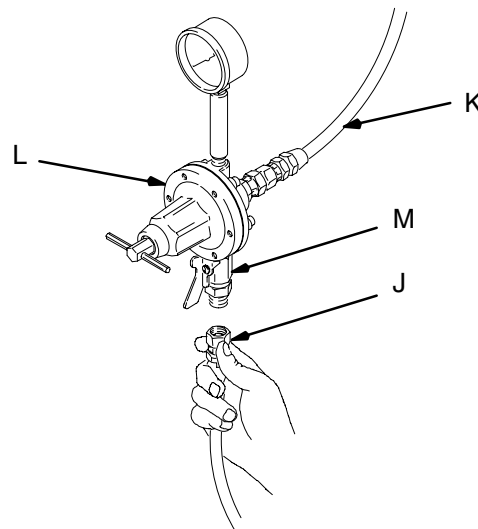

Fig. 4 7016A
- Install a fluid regulator (L) on the fluid line to control fluid pressure to the gun. See Fig. 4.
- A. Connect the fluid hose (J) to the gun fluid inlet (B) 3/8–18 npsm [R 3/8–19] compound thread.
- B. Connect the other end of the fluid hose (J) to a regulated fluid supply line (K).
NOTE: Fig. 4 shows the fluid regulator (L) and fluid shut-off valve (M) on the fluid supply line (K).